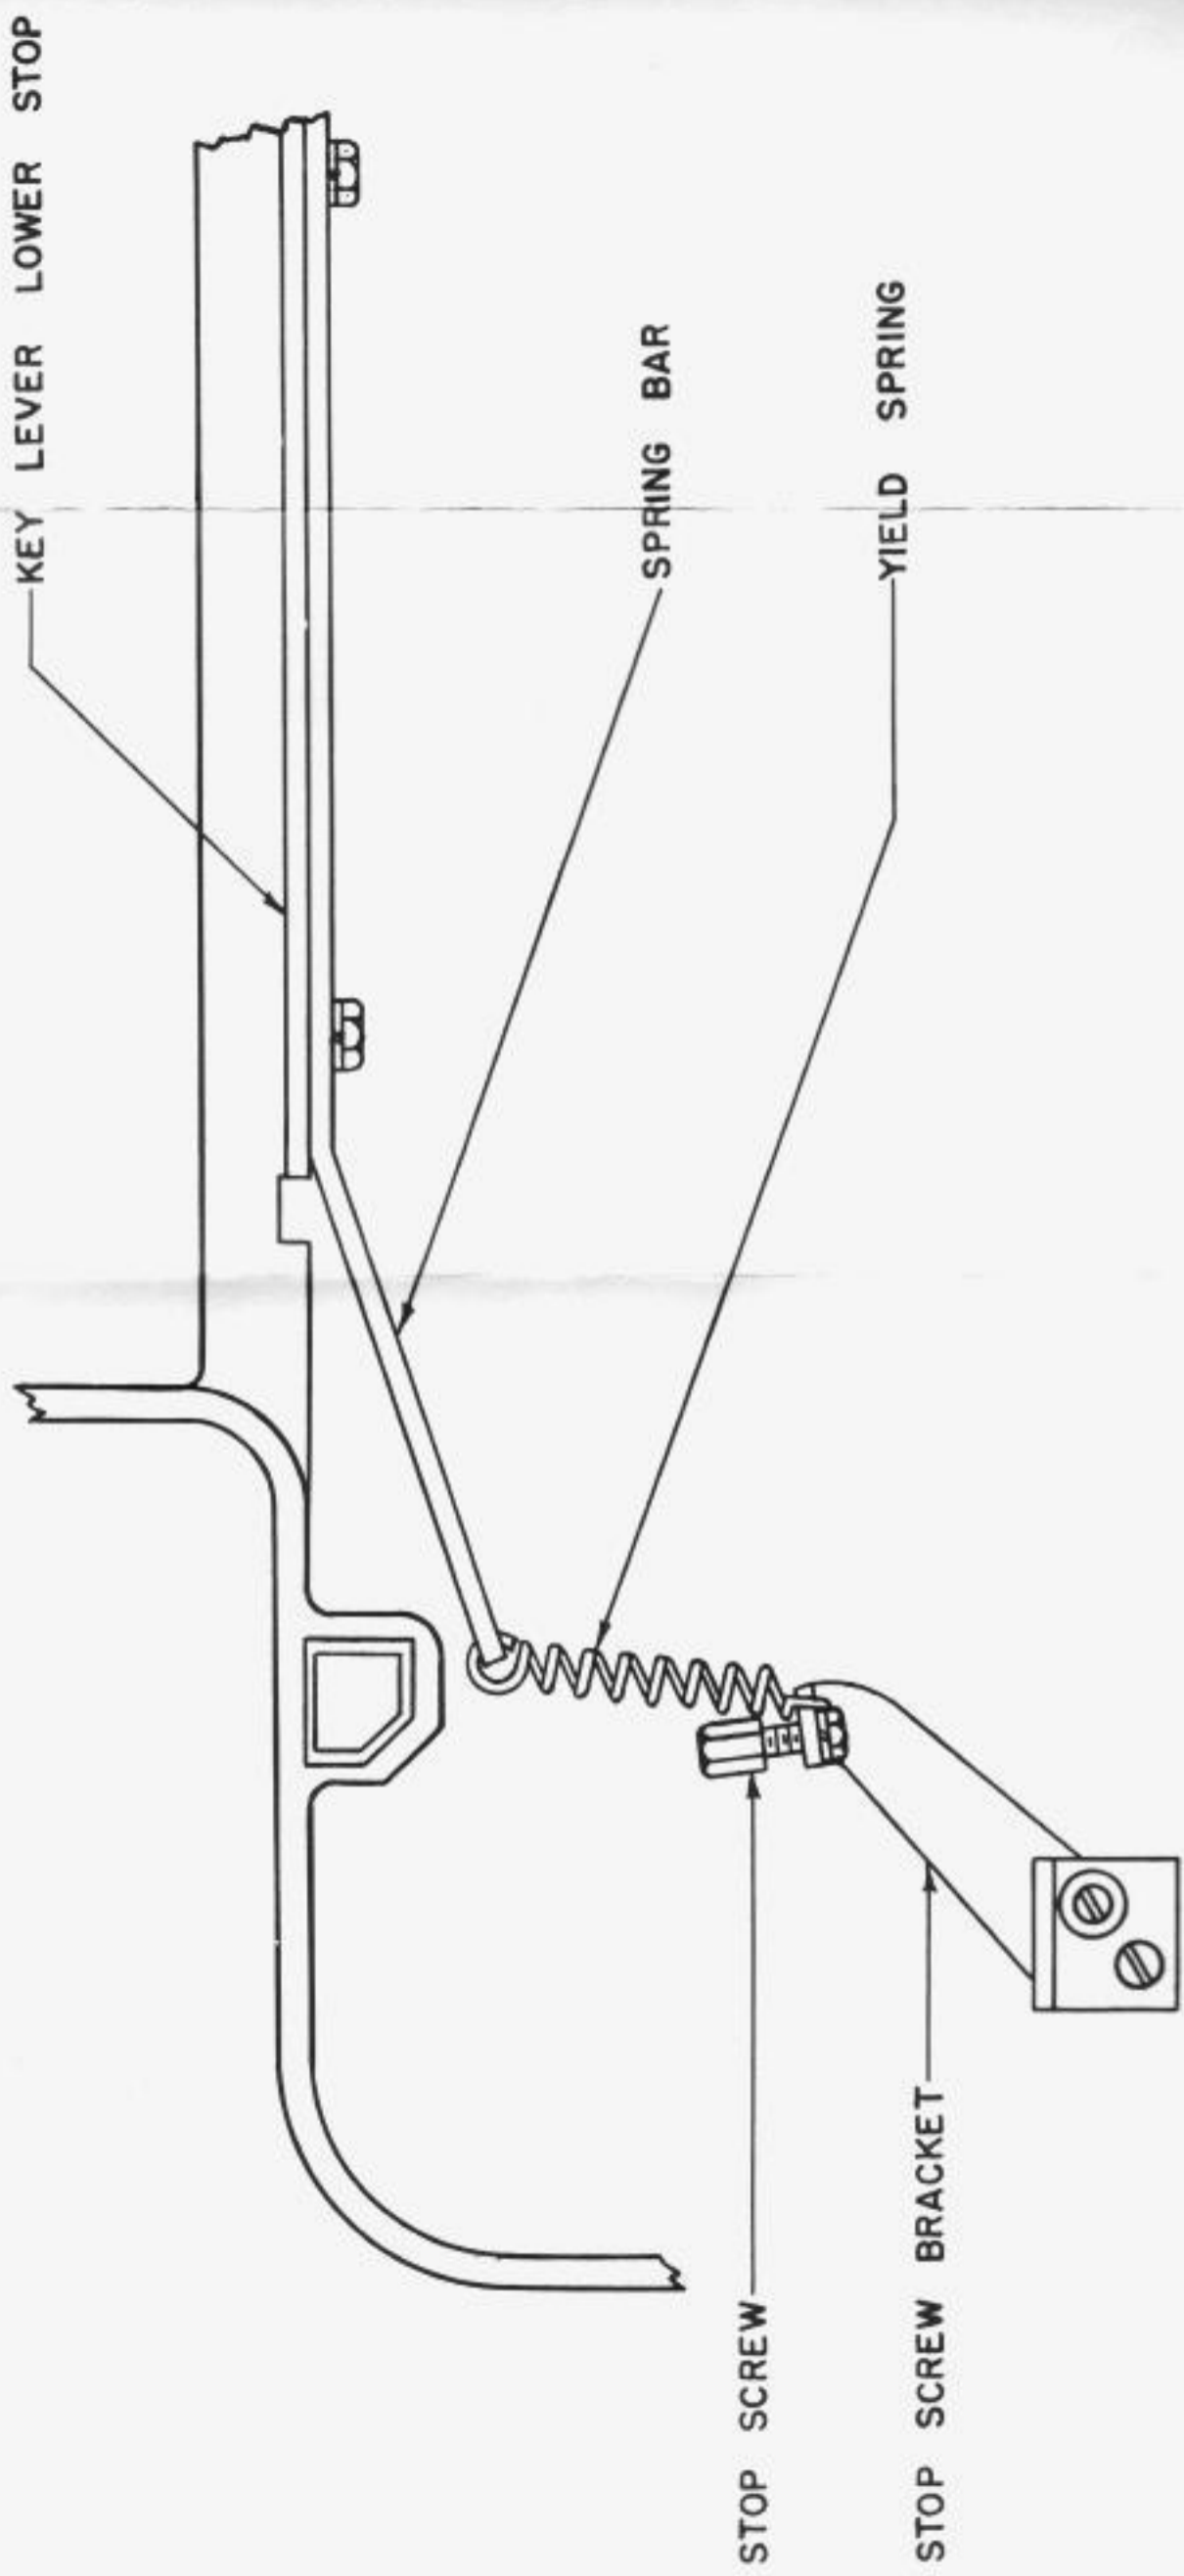

FIGURE 7A
****Stop Screw Bracket Yield Spring Tension (Figure 7A)***